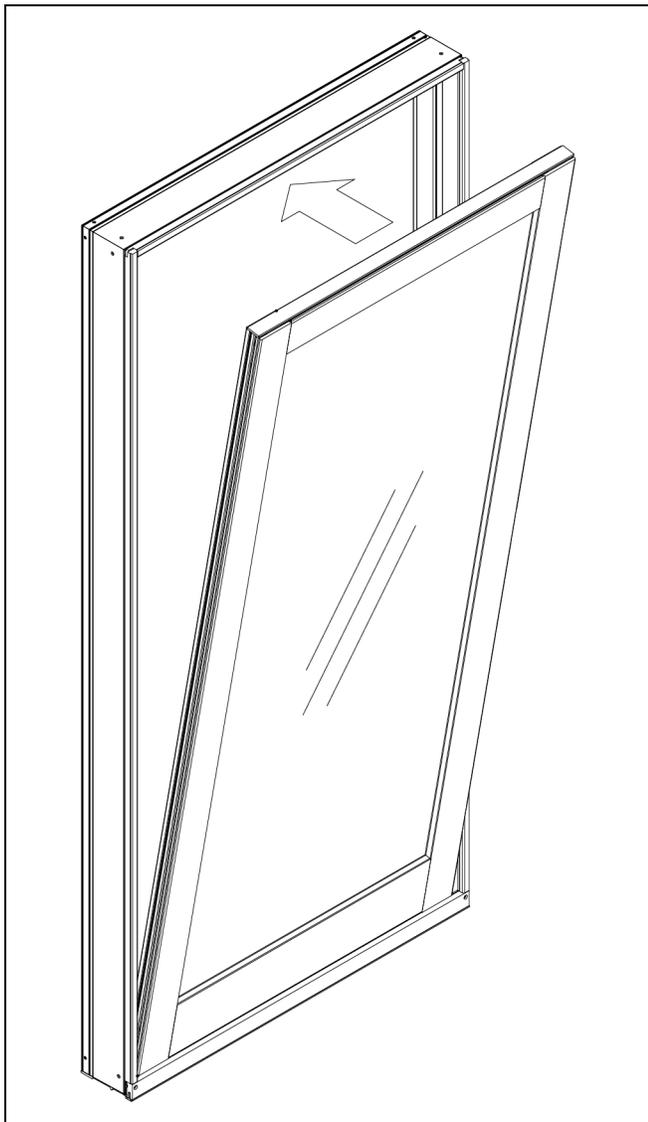

Figure 6 Interior view
6. Replace the stationary panel from the interior, set replacement stationary panel on sill and tip into frame as shown in Figure 6. Make sure all stationary clips have engaged the Ultrex stiles of stationary panel.